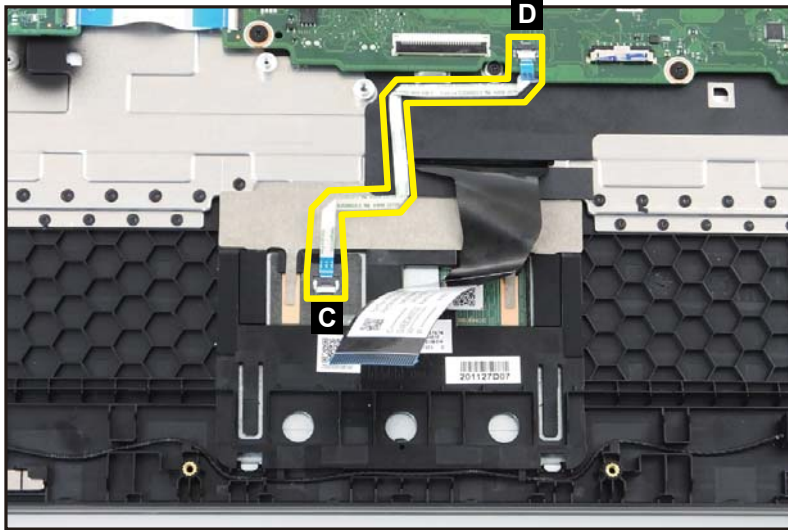

Figure 1-11. Touchpad Module Removal
3. Disconnect the touchpad FFC from the touchpad module connector (C) and the mainboard connector (D). Then remove the touchpad FFC from the top assembly (Figure 1-11).